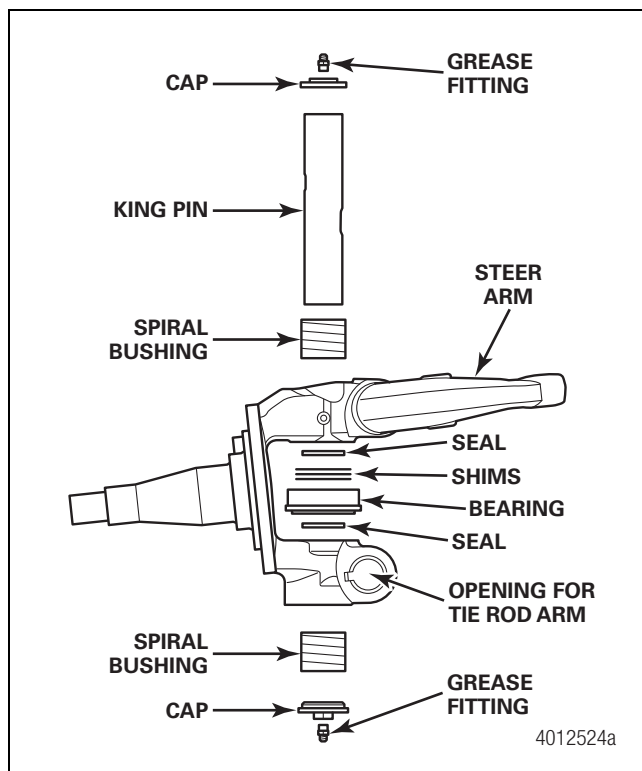
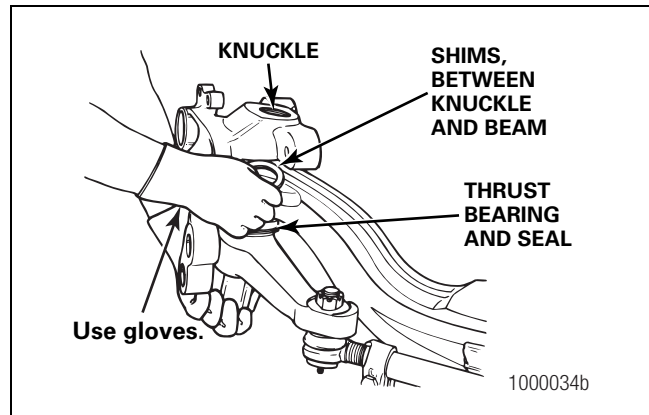
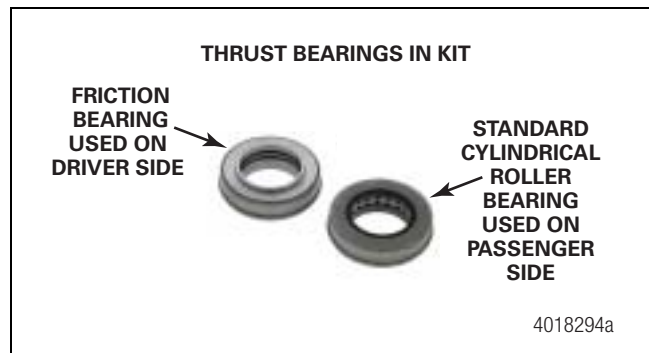

Figure 1
Figure 4
Figure 5
This publication provides instructions for installing Meritor FastSet no-ream king pin kits. Each kit includes four spiral bushings. These kits can be used to service Meritor front non-drive steer axles. Figure 1.
- Reinstall the knuckle assembly to the axle with the new king pin and thrust bearing. Each kit includes two types of thrust bearings. Install the friction-type bearing on the driver side and the standard cylindrical roller-type bearing on the passenger side. Add shims until the fit is snug and the thrust bearing requires a slight tap to align with the king pin. Figure 1, Figure 4 and Figure 5.